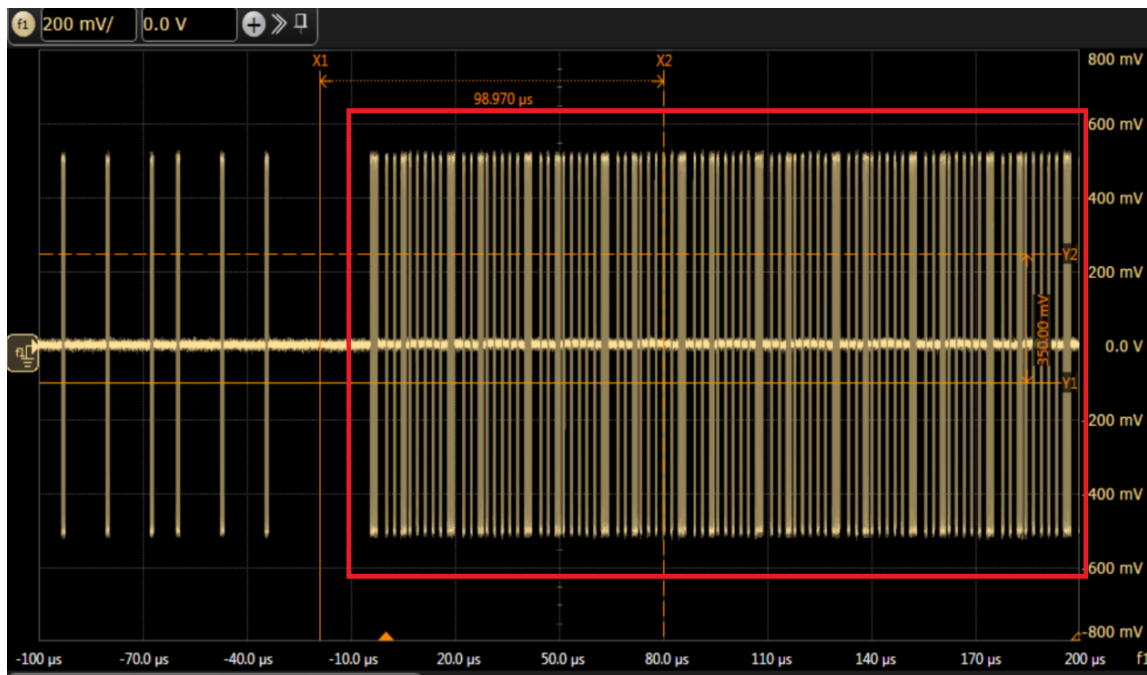

Figure 46 LBPS signal on the acquired waveform in 10G LBPS tests
- 11 Verify that the correct waveform has been acquired. The highlighted area in Figure 46 is the LBPS signal.